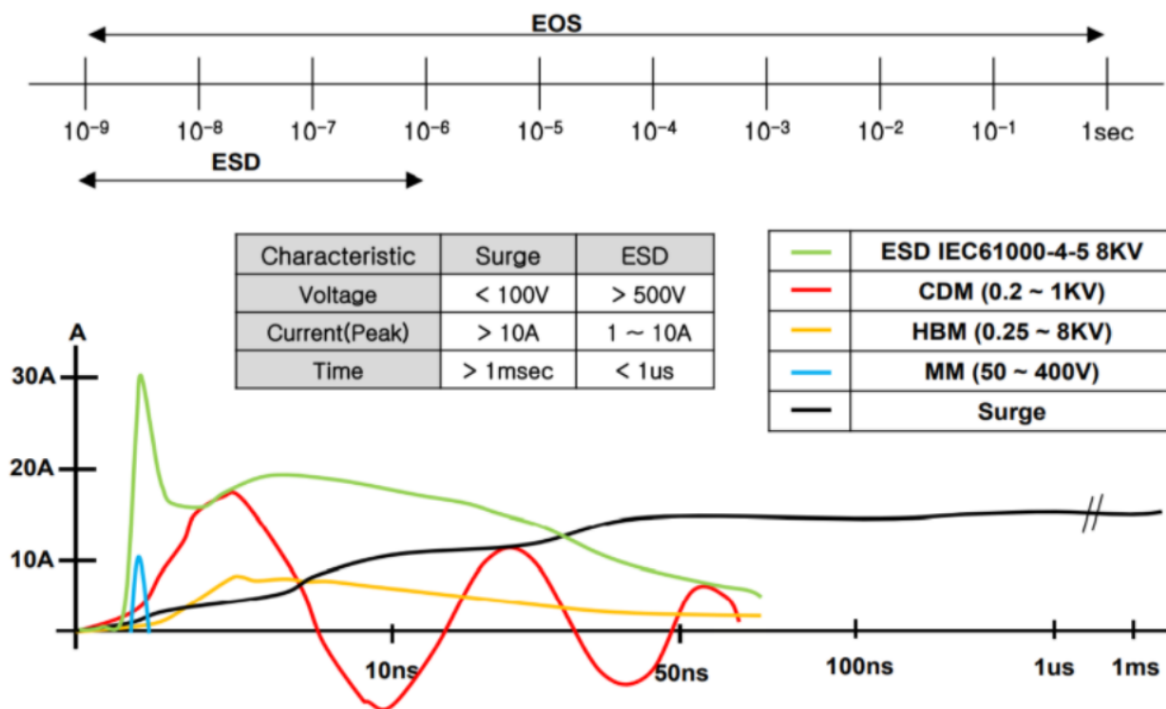

Figure 3: Different ESD Models by Energy Characteristics
There are various ESD event models used to describe and test electrical components. They vary by energy, pulse shape, and size. Figure 3 shows the electrical energy signatures of different ESD models, including the IEC61000-4-5 8kV model, the Charged-Device Model (CDM), the Human Body Model (HBM), and the Machine Model (MM). These are compared against the energy characteristics of an electrical surge.